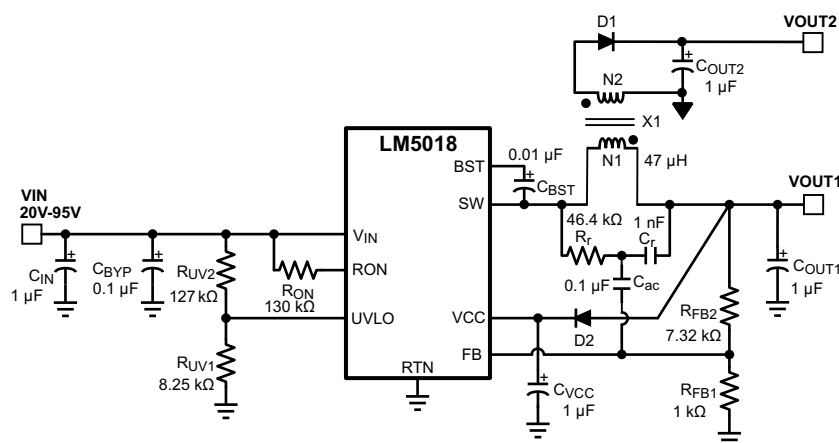

Figure 8-5. Isolated Fly-Buck™ Converter Using LM5018
An isolated supply using LM5018 is shown in Figure 8-5. Inductor (L) in a typical buck circuit is replaced with a coupled inductor (X1). A diode (D1) is used to rectify the voltage on a secondary output. The nominal voltage at the secondary output (V_{OUT2}) is given by Equation 20.